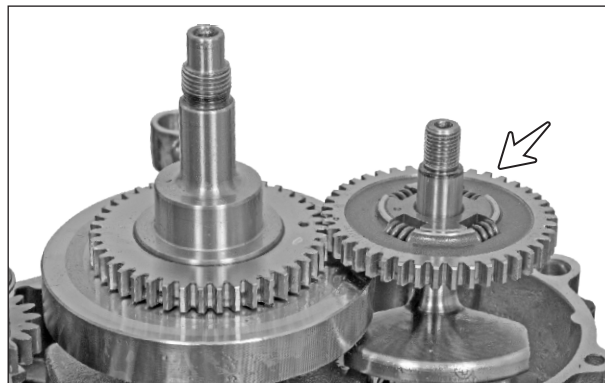

Fig. 3.144
- Take out gear assembly balancer shaft driven from the balancer shaft. (Fig. 3.144)